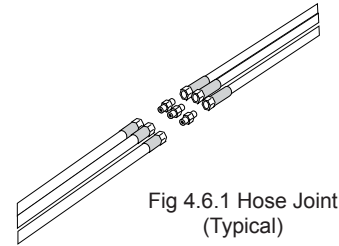

Fig 4.6.1 Hose Joint (Typical)
- Fit the nylon abrasive sleeve over the loose ends of the Dipper hoses. Using the GREEN color coded hoses for the Boom, connect these to the dipper arm hoses. (Fig 4.6.1)